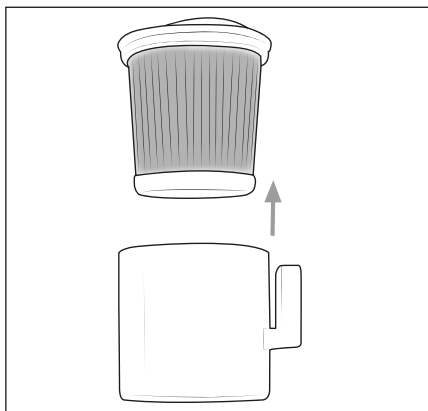

Fig. 17
- 4) If you have removed the dust container **7**, you can take the HEPA filter holder **5** out of the appliance. Remove the HEPA filter **4** from the HEPA filter holder **5** by reaching into the opening of the HEPA filter **4** and pulling it out of the HEPA filter holder **5** (see Fig. 17).